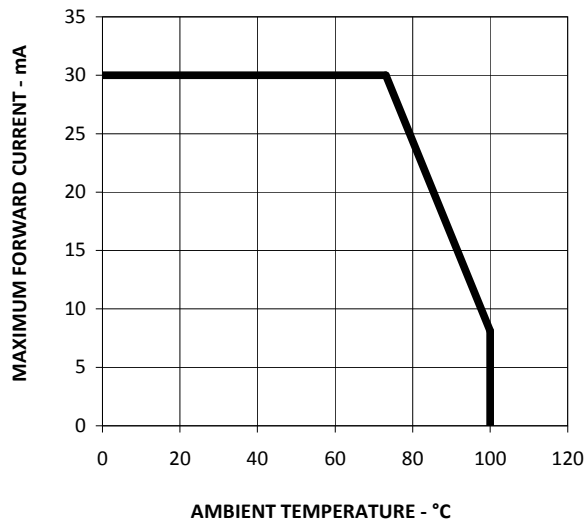

Figure 4. Maximum Forward Current Vs. Ambient Temperature. Derated Based on $T_{JMAX} = 110^{\circ}\text{C}$, $R\theta JA = 300^{\circ}\text{C/W}$
1. Derate linearly as shown in Figure 4.